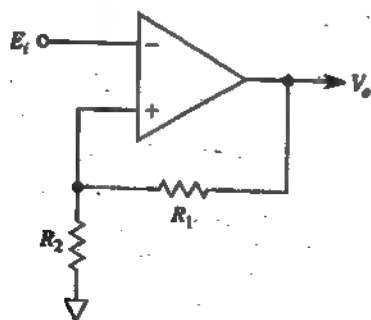

FIGURE P4-2
- 4-2. In Fig. P4-2, $R_1 = 25 \text{ k}\Omega$, and $R_2 = 5 \text{ k}\Omega$. Assume for simplicity that $\pm V_{\text{sat}} = \pm 15 \text{ V}$. Calculate (a) V_{UT} ; (b) V_{LT} ; (c) V_H .